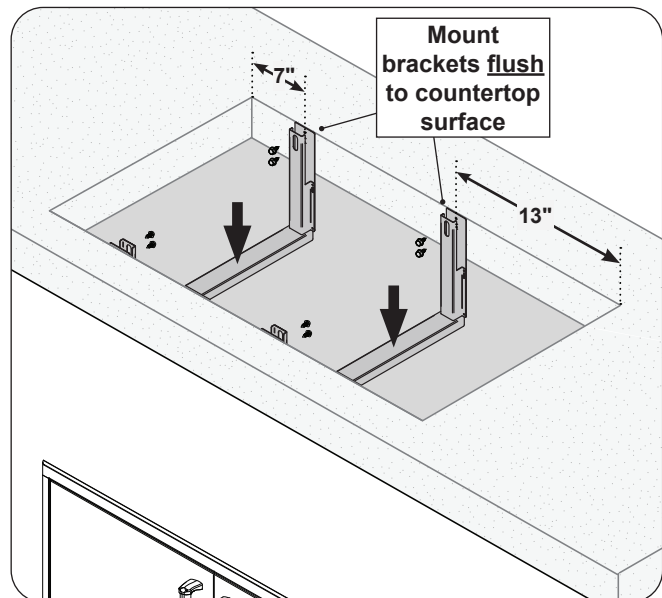

Fig. 2-2 Install hanging brackets
2. From the left edge of the cutout opening, measure 7" to the center of the hanging bracket screw hole. Mark the location, then secure the bracket to the countertop using hardware appropriate for your construction (not included). See Fig. 2-2.
3. Repeat the previous step for the second hanging bracket with a measurement of 13" from the right edge of the enclosure cutout to the center of the hanging bracket screw hole and fasten. See Fig. 2-2.